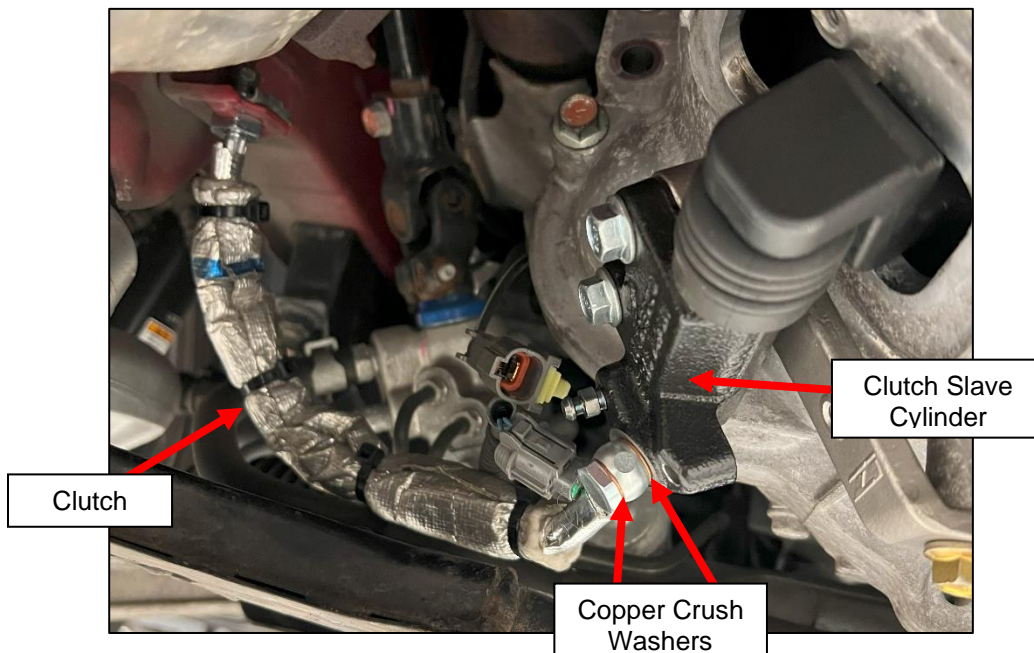

Figure 23
45. Connect the Clutch Line to the Clutch Slave Cylinder. Make sure to use the included Copper Crush washers included with the Clutch Line. Torque to 14 ft-lbs. **DO NOT REUSE COPPER CRUSH WASHERS.** *Figure 23.*